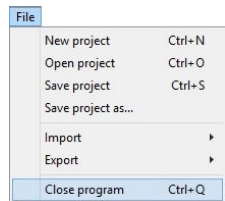

Fig. 132– closing CAD Cut
- by clicking **'Close program'** in the **'File'** menu (Fig. 132);